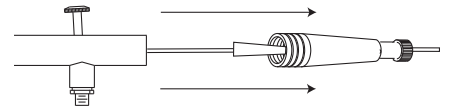

Figure 20
3. Once needle chuck is completely unscrewed, carefully pull needle out of airbrush. See Figure 20.